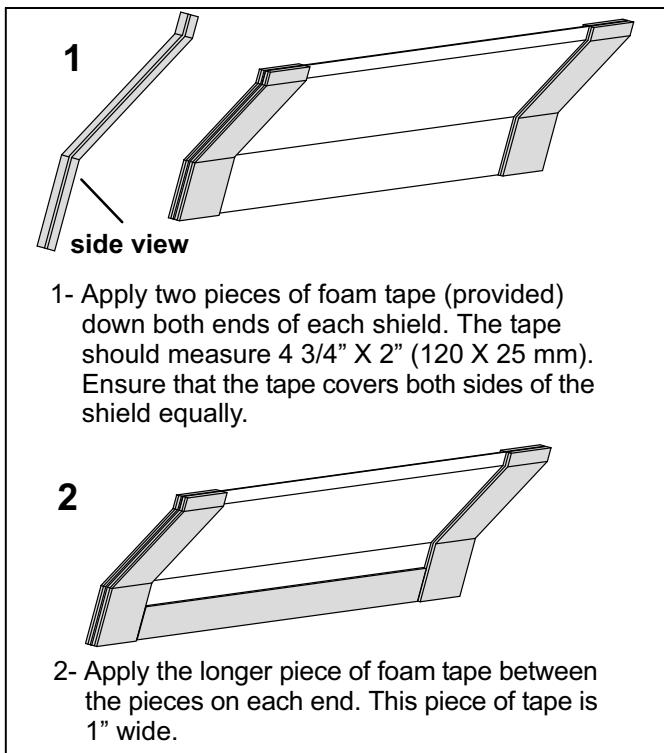

FIGURE 20
- 5- Install downflow drip shield firmly in place on inside of coil slab from under drain pan. See figures 20 and 21.